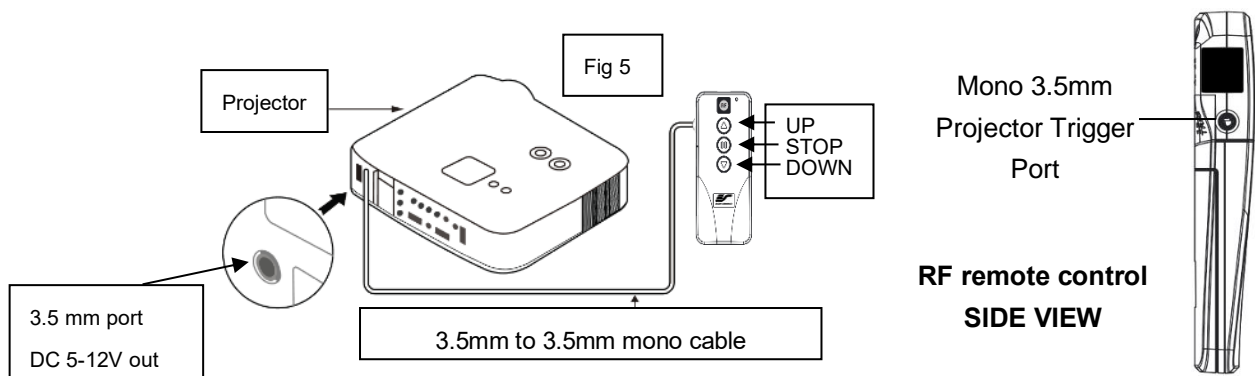

Fig 5
5. Wireless 5-12 volt trigger (Fig.5): Requires a 3.5mm to 3.5mm mono cable (**Not included**).